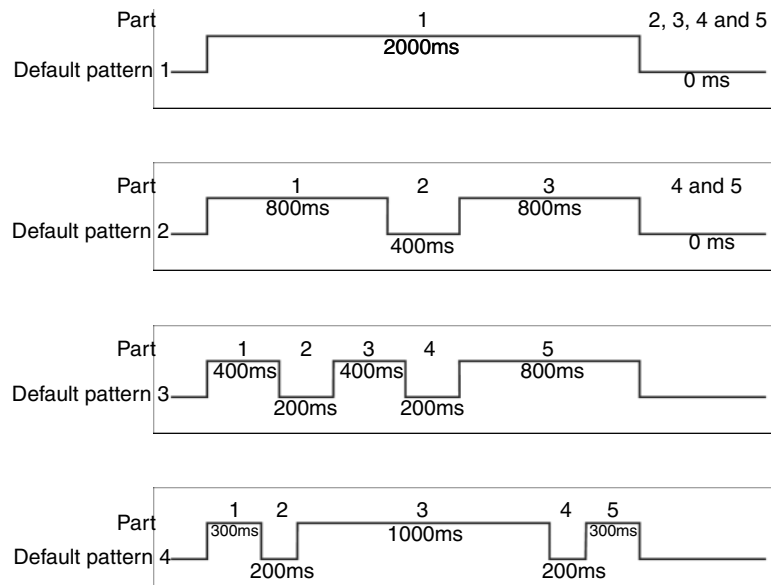

FIG. 1 DTMF+ distinctive ring default patterns and time values
The AXB-DTMF+ can identify up to four distinctive ring default patterns. Default time values for each pattern are shown in FIG. 1. A pattern consists of five parts. Depending on the ring pattern, a part is either high or low. The distinctive ring patterns shown illustrate the envelope of the incoming ring with respect to time. The four default patterns are:
Distinctive ring Send_Commands produce four patterns (P1 through P5) and high and low time values (X). Refer to FIG. 1 on page 15 to see the timing diagram based on defaults at start-up/reset.